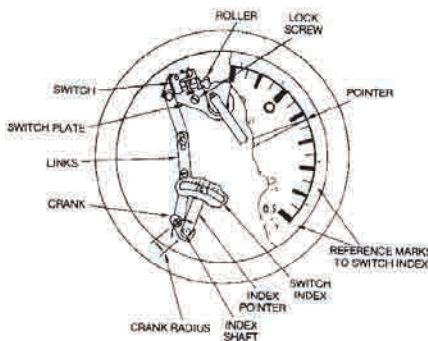

Figure 3-6.
B. Calibration Procedure (see Figure 3-6)